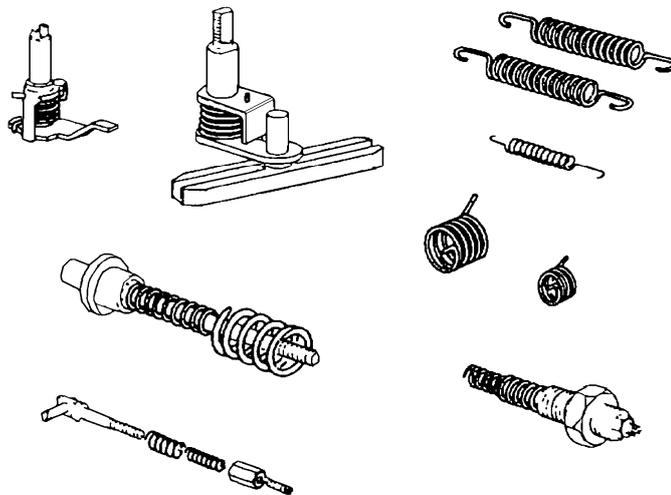

Figure 108 Governor Springs
- i. Inspect all springs (Figure 108) for distortion, excessive wear, cracks or damage and replace as necessary.